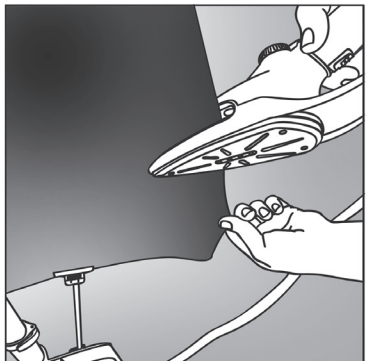

Fig 3
- Slide the fabric inside the gap located on the handle, moving the head up the garment crease material. See Fig 3.